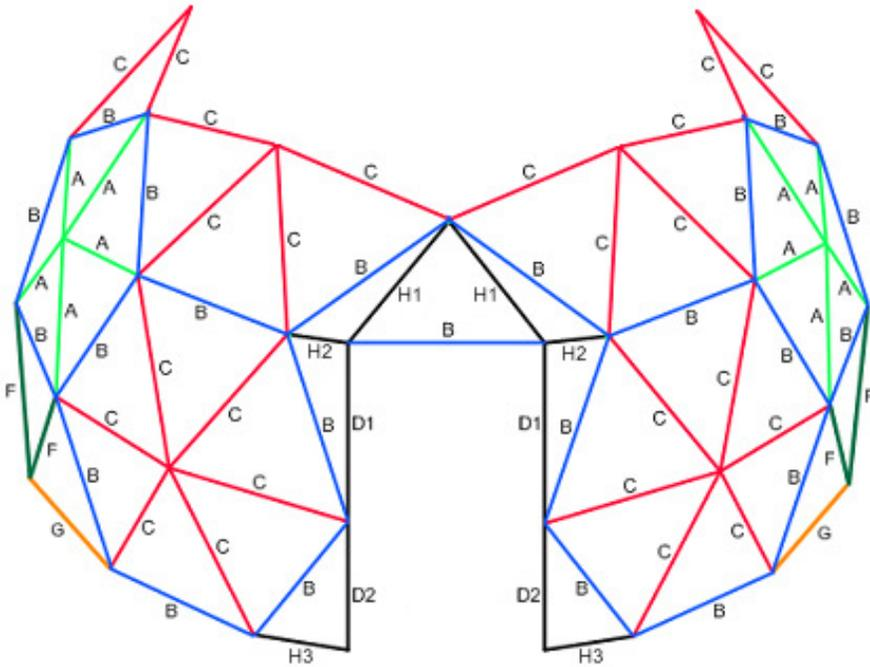

Figure 13 – Install the doorway struts.
- In this step you will create the Star doorway. Install 2 R's, 1 B, 2 H1's, 2 D1's, 2 D2's, and 2 H2's in accordance with Figure 13 below.